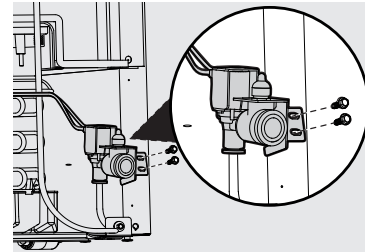

Figure 17
14. The water valve location has pre-made holes on the right rear of the unit. The water line should be oriented downward when the valve is installed. Install the water valve using a 1/4" hex head driver, install the 2 hex head screws. Tighten screws until they are snug and then tighten an additional 1/4 turn. See Figure 17.